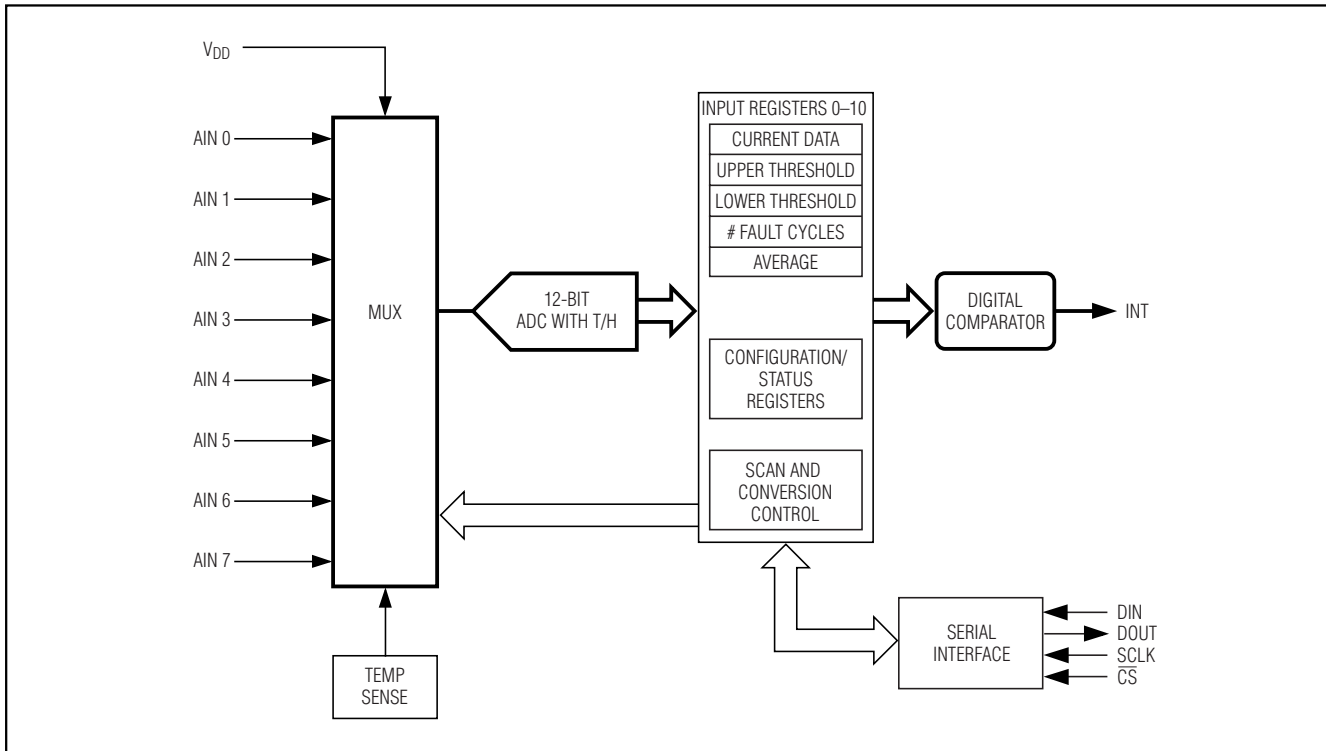

Figure 3. Simplified Alarm Block Diagram of the MAX1153/MAX1154
- Note 6:** See Figure 3 and the Sampling Error vs. Input Source Impedance graph in the *Typical Operating Characteristics* section.
The MAX1153/MAX1154 are precision-monitoring integrated circuit systems specifically intended for stand-alone operation. They can monitor diverse types of inputs, such as those from temperature sensors and voltage signals from pressure, vibration, and acceleration sensors, and digitize these input signals. The digital values are then compared to preprogrammed thresholds and, if the thresholds are exceeded, the processor is alerted by an interrupt signal. No interaction by the CPU or microcontroller (μC) is required until one of the programmed limits is exceeded (Figures 3 and 4).